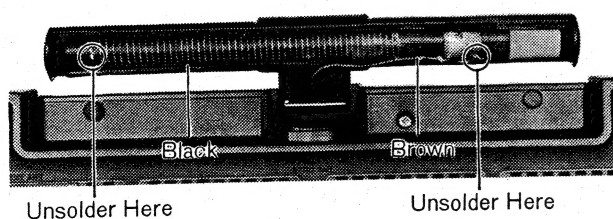

Fig. 19
2. Unsolder lead wires from core antenna, as shown in fig. 19.